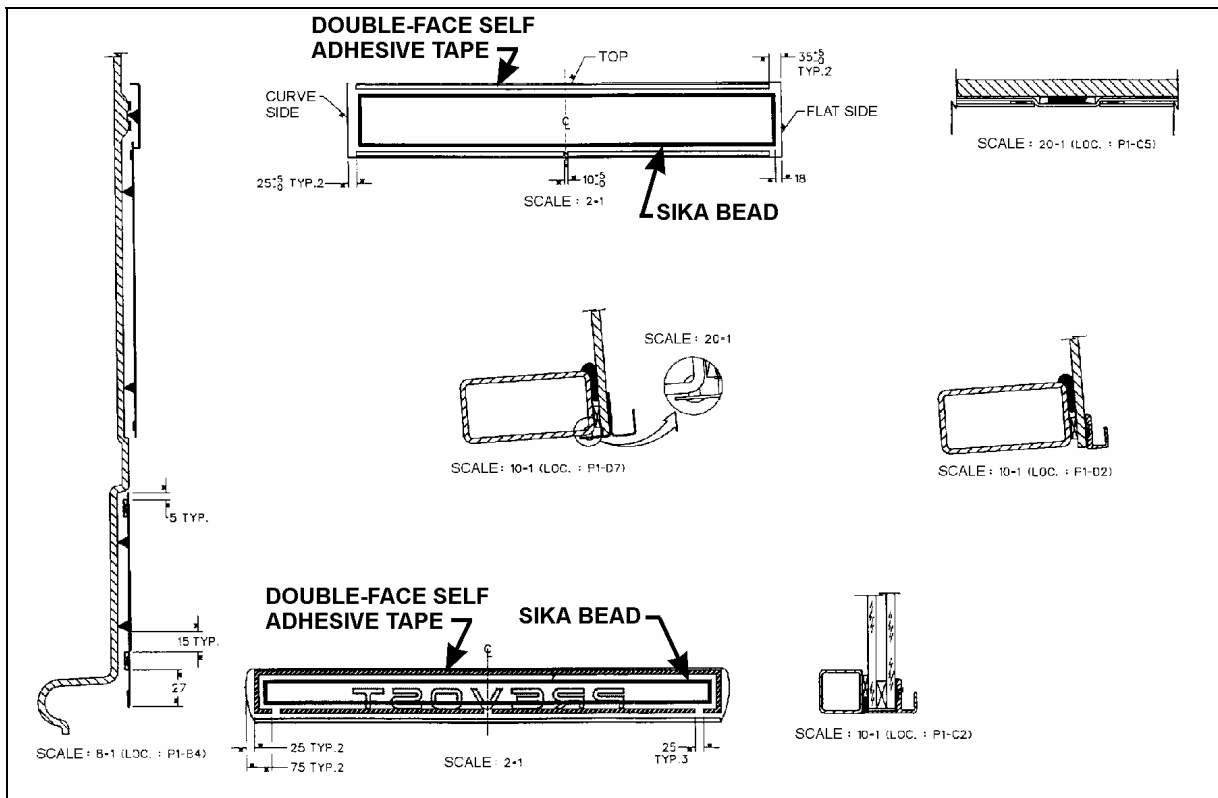

FIGURE 11: FRONT FACE BODY PANELS INSTALLATION
- Insert from underneath a knife with a thin sharp blade (Olfa type), cut lower Sika bead (refer to figures 11 and 12).
Refer to figure 11 for more information on procedure.
Note: Discard waste according to applicable environmental regulations, use dangerous waste containers. For more information on the application of double-face self adhesive tape near the top edge, refer to figure 11.
- Sika bead is represented as checked lines, refer to figure 11 for more information.
- Refer to figure 11 for more information on procedure.
- Draw a line 5 mm from the top edge, using a felt-tip pen (refer to figure 11).